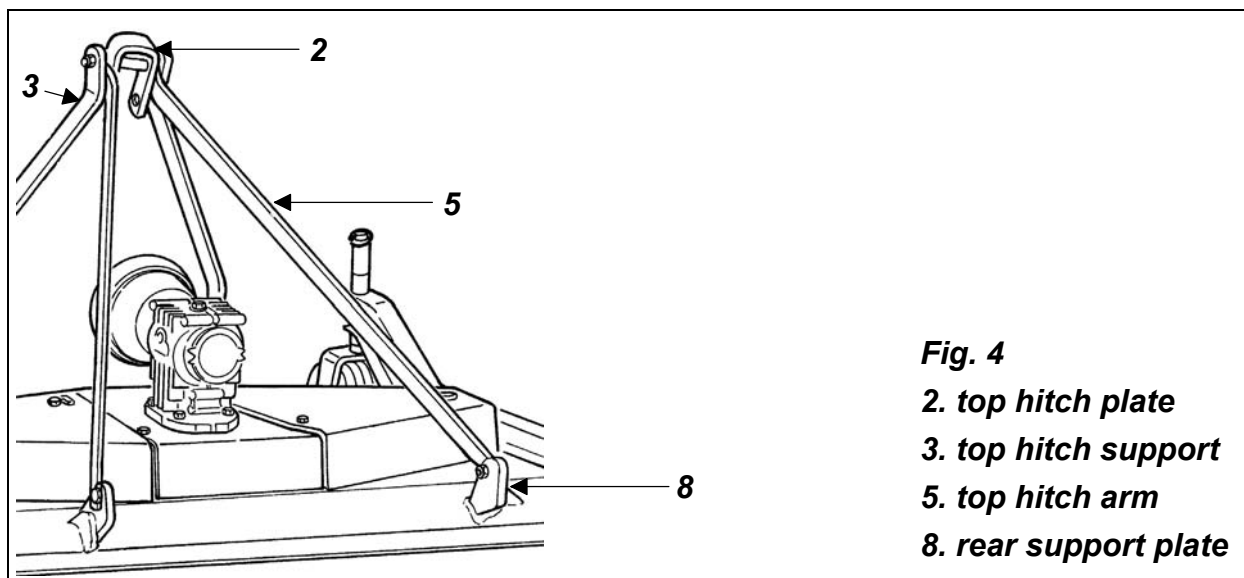

Fig. 4
7. Bolt up the top hitch arms (**see #5, fig. 3 & 4**) to the **outside** of the rear support plates on the rear of the mower (**see #8, fig. 4**).